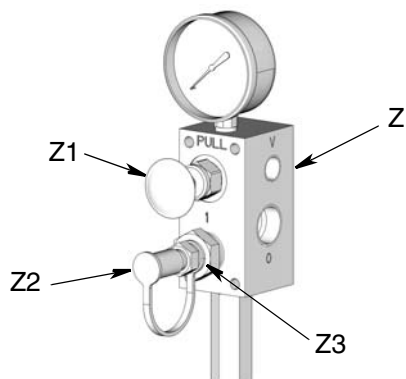

FIG. 9
1. Prior to starting the fill, pull out and hold black pressure relief knob (Z1) long enough to relieve line pressure between fill valve (Z) (FIG. 9) and Auto-Fill Shut Off (S).
3. Remove the yellow dust cover (Z2) from fill coupler (Z3) (FIG. 9, page 11).
4. Connect the refilling line (D) between the remote filling stations pump (P) and fill coupler (Z3) port marked with an "I" (FIG. 9, page 11).
5. Start the remote filling station pump (P).
6. When reservoir (K) is filled:
- the remote filling station pump (P) stalls (dead-heads),